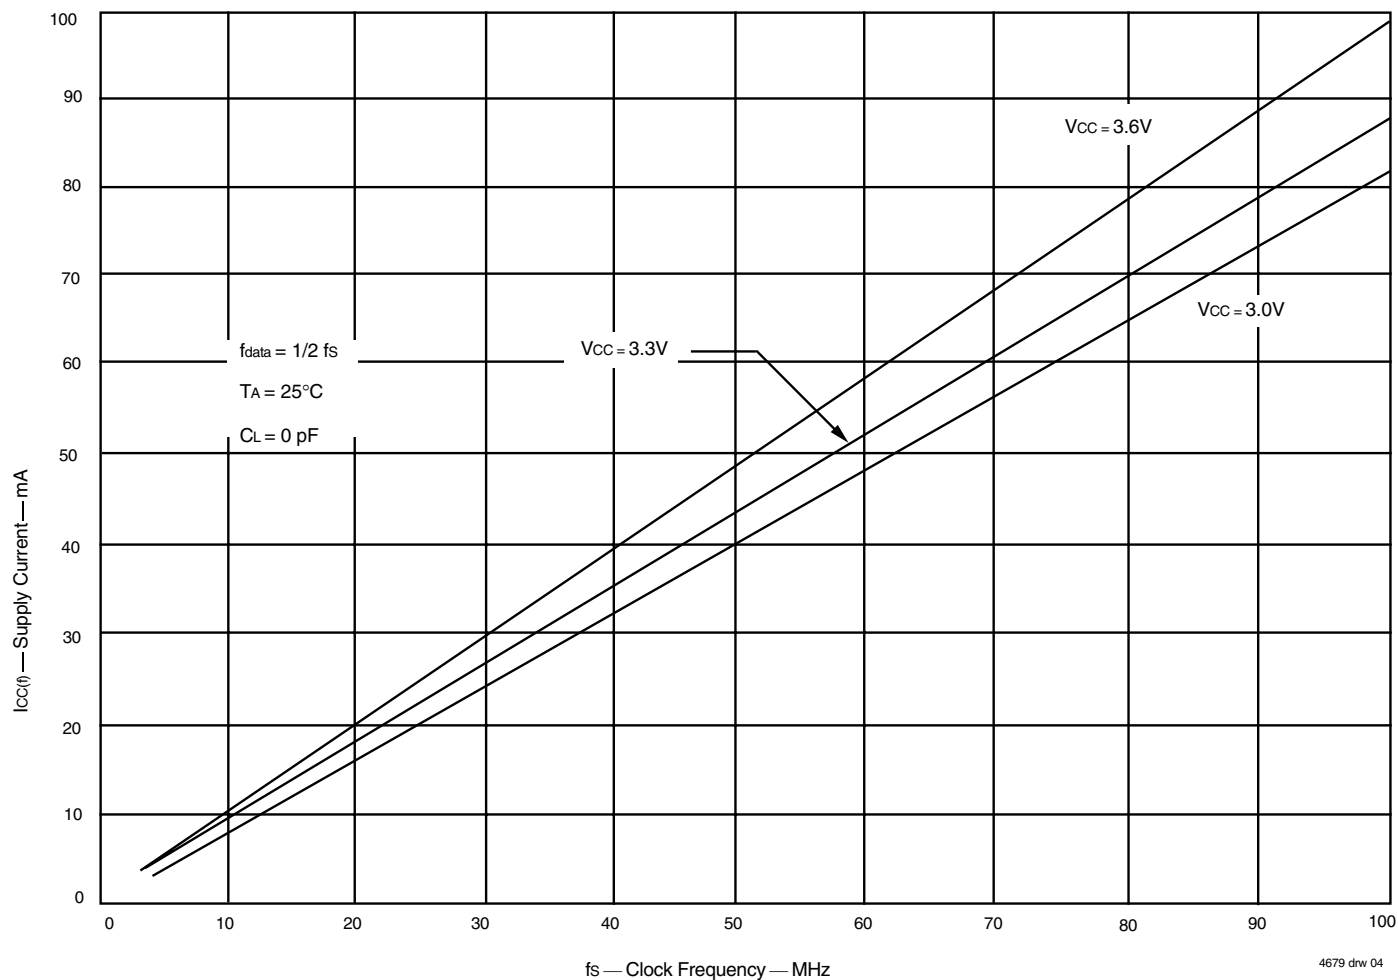

Figure 1. Typical Characteristics: Supply Current (I_{CC}) vs. Clock Frequency (f_s)
- For additional I_{CC} information, see Figure 1, *Typical Characteristics: Supply Current (I_{CC}) vs. Clock Frequency (f_s)*.
The $I_{CC(f)}$ current for the graph in Figure 1 was taken while simultaneously reading and writing a FIFO on the IDT72V3682/72V3692/72V36102 with CLK_A and CLK_B set to f_s . All data inputs and data outputs change state during each clock cycle to consume the highest supply current. Data outputs were disconnected to normalize the graph to a zero capacitance load. Once the capacitance load per data-output channel and the number of these device's inputs driven by TTL HIGH levels are known, the power dissipation can be calculated with the equation below.
With $I_{CC(f)}$ taken from Figure 1, the maximum power dissipation (P_T) of these FIFOs may be calculated by: